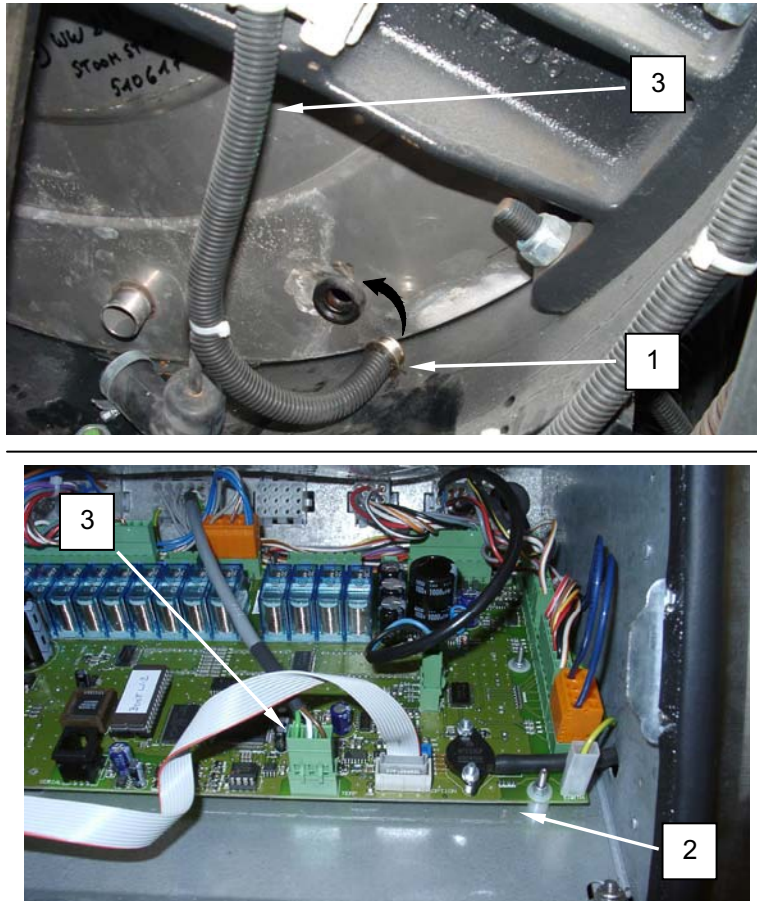

Figure 1. Replace the Temperature Sensor.
2. Remove temperature sensor (**Figure 1, Item 1**) from grommet seal.
4. Disconnect temperature sensor (**Figure 1, Item 1**) from the microprocessor board (**Figure 1, Item 2**).
5. Remove temperature sensor (**Figure 1, Item 1**) with connected wiring (**Figure 1, Item 3**) from washer. Make note of wire placement in wire guides, and points where wire ties may require cutting.
6. Route temperature sensor wiring (**Figure 1, Item 3**) close to wiring harness and up into control box. Ensure replacement sensor wiring is routed through existing looms and guides.
7. Install replacement temperature sensor (**Figure 1, Item 1**) in grommet seal.
8. Connect replacement temperature sensor wiring (**Figure 1, Item 3**) to microprocessor board (**Figure 1, Item 2**).
9. Install wire ties as necessary to secure temperature sensor wiring (**Figure 1, Item 1**).